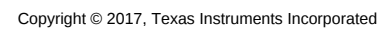

Figure 6-2. CLA Block Diagram
- Figure 6-2 shows the CLA block diagram.